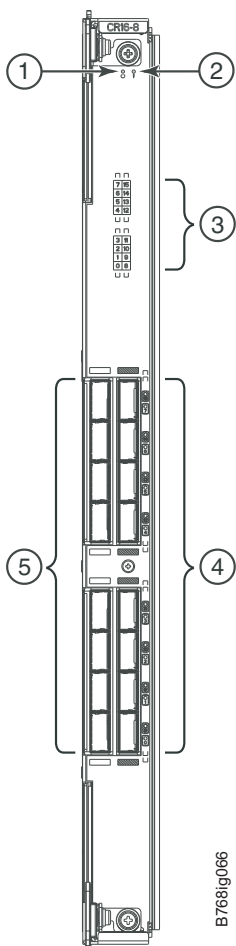

Figure 19. Core switch blade (CR16-8), LEDs and QSFP connectors
1. Check the LED indicators on the core switch blade (Figure 19). The LED patterns may temporarily change during POST and other diagnostic tests; for information about how to interpret the LED patterns, see Table 8.
Figure 19 identifies the core switch blade and its components